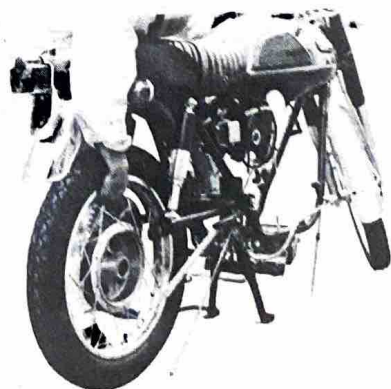

Fig. 5-2-11
- 7) Incline the chassis toward the left side, and remove the rear wheel assembly. (Fig. 5-2-11)